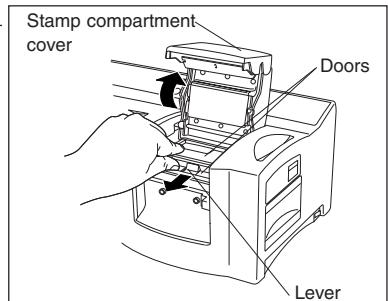

figure 1
- Lift open the stamp compartment cover, slowly pull the lever toward you to open the doors in the stamp compartment, and then check that the printed draft sheet has stopped over the xenon lamp unit (see figure 1).